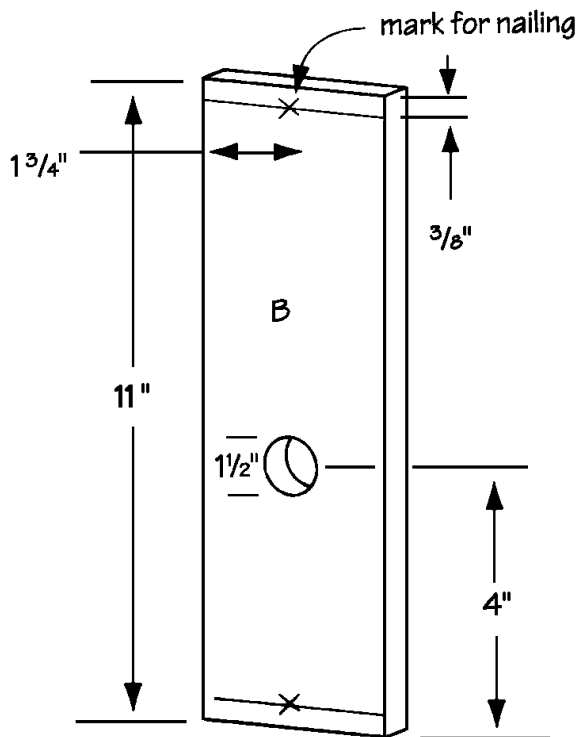

Figure 1
1. Cut two top/bottoms (A) from $\frac{1}{2}$ -thick plywood, each a circle 11- $\frac{1}{4}$ inches in diameter.
2. Cut 10 wide sides (B) from 1 x 4 pine, each measuring 11 inches.
3. Cut a 1- $\frac{1}{2}$ "-inch-diameter hole in one wide side (B), 4 inches from one end, and centered on the width, as shown in *Figure 1*. (**Note:** Different birds require different size openings. Refer to a book on building birdhouses to help you determine what size hold to drill. The hole size used here is a good match for flycatchers, wrens, nut hatches, and tree swallows.)
4. Measure carefully and mark the center of the 1 x 4 width of each of the wide sides (B), $\frac{3}{8}$ -inch from each end, as shown in *Figure 1*.